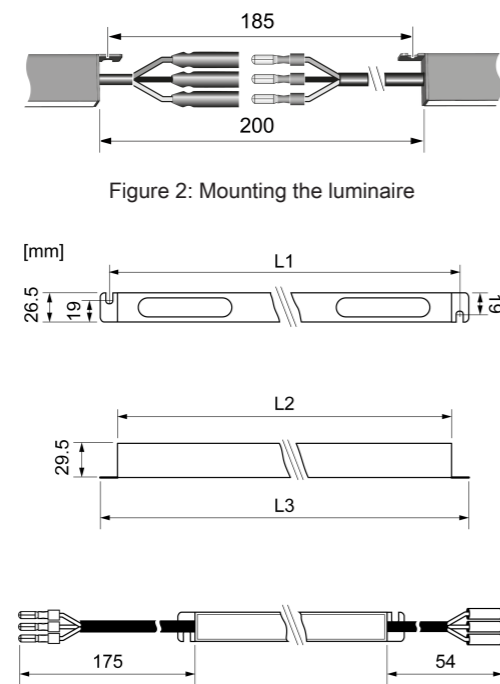

Figure 3: Dimensioned drawing
- Prepare boreholes in the groove for the fastening of the luminaires. Observe dimensioned drawing for the distance of the boreholes (Figure 3).